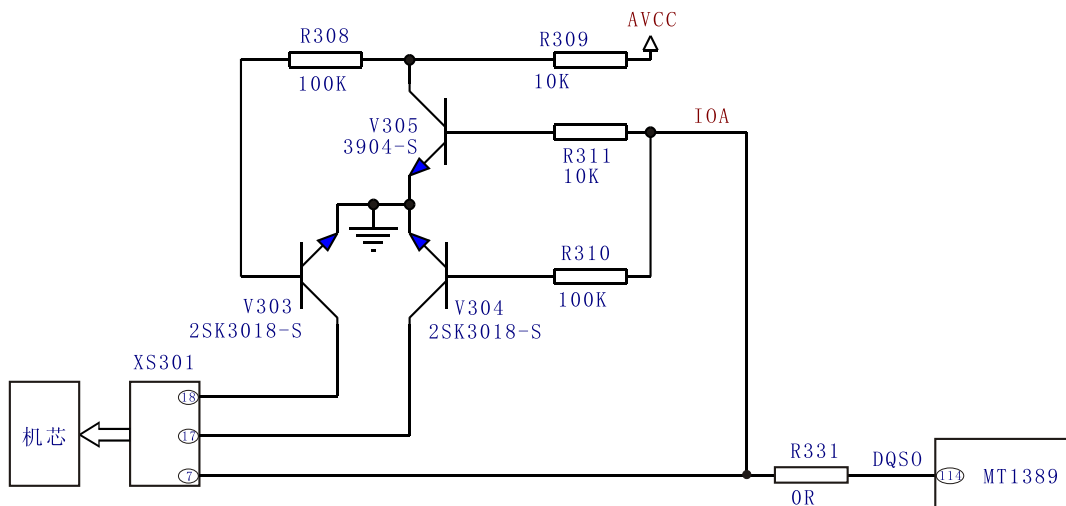

Figure 3.2.7.1 Disc identification circuit diagram
1. Disc identification circuit is shown as the following figure 3.2.7.1: